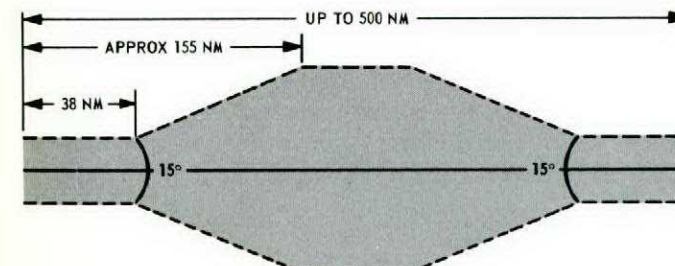
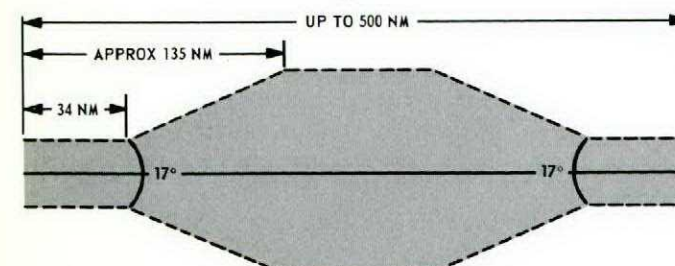

Figure 1
Figure 2
- High Level Airway sections of 500 miles or less — protection is given from a minimum of 5 nm either side of track at the navigational aid out to a maximum of 20 nm either side of track. The angle at which the protected area increases both sides of track depends upon the aid being used for track guidance and varies from 7½° (Fig 1) to 8½° (Fig 2).